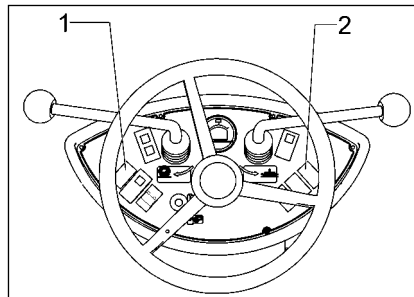

Fig.13
- Actuate switch (Fig. 13/1) and hold (dirt hopper is released)
- Actuate switch (Fig. 13/2) by pushing = lift dirt hopper
- Lower dirt hopper by actuating switch (Fig. 13/1) and switch (Fig. 13/2) = lower dirt hopper